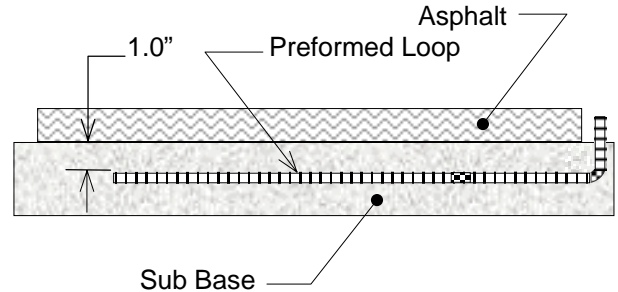

Figure 10: Asphalt Installation
- C. The loop may be installed in the sub base (Fig 10) or simply placed on the surface and covered with light coating of sand or dirt.